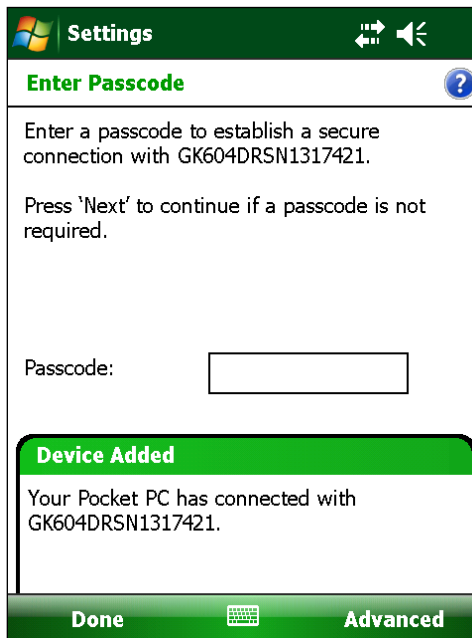

Figure 20 - Enter Passcode
- 5) A prompt will be displayed for a password; enter “**default**” and tap “Next” again. If a partnership with the device is successfully established the screen will momentarily display the prompt shown at the bottom of Figure 20 and then return to the Bluetooth Devices screen.